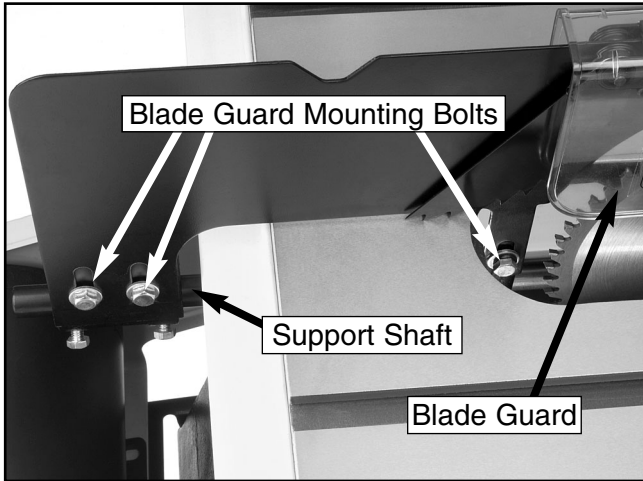

Figure 31. Blade guard components.
4. Slide the blade guard fingers onto the blade guard mounting bolts (**Figure 31**).